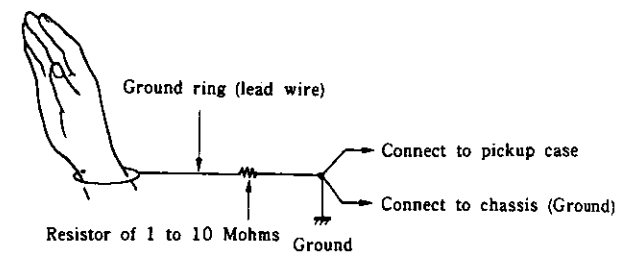

Fig. 13
(2) **Handling the unit mechanism (Fig. 13)**
When handling the pickup mechanism and the unit mechanism, use a ground ring such as the one illustrated in Fig. 13. (A ground ring can be constructed using ordinary lead wire.)